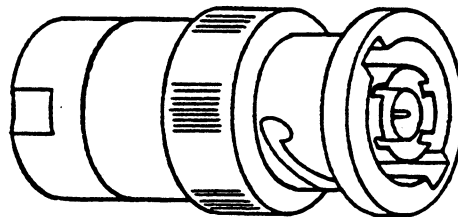

Figure 2-4. BNC Terminator Cap
- Terminate the coaxial line (at the end) by connecting a 93 ohm BNC terminator cap to the open end of the "T" fitting installed on the last cluster controller on the line. Figure 2-4 illustrates a terminator.